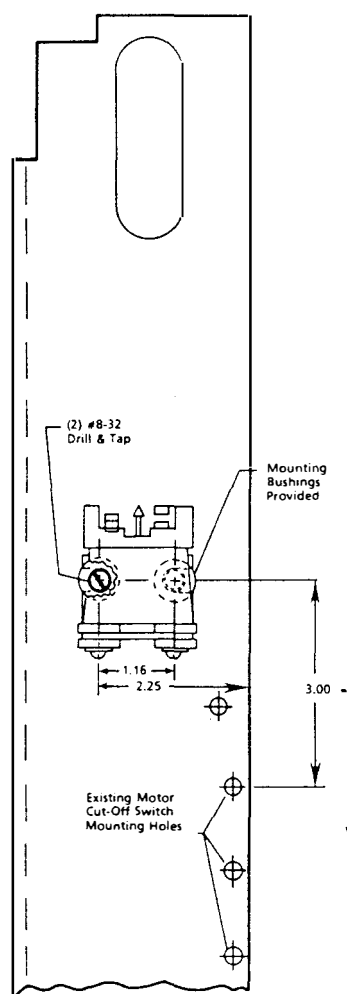

Fig. 5 — Relocated 'W' (anti-pump) relay
- a. Using the pattern given in Fig. 5 add the two 8-32 tapped holes as shown. Carefully clean up all metal filings.
- b. Referring to Fig. 5, mount the W relay using the hardware provided.